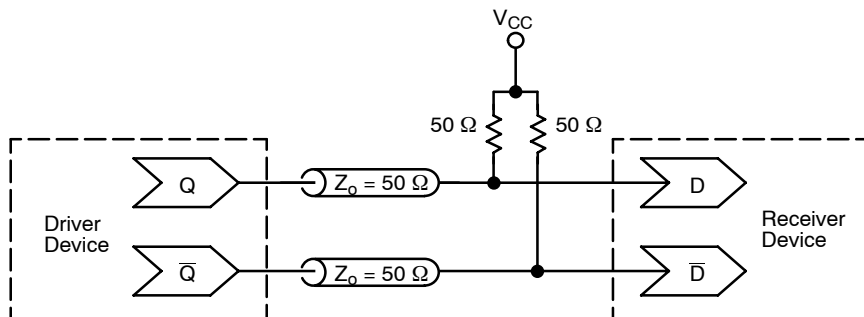

Figure 10. Typical Termination for Output Driver and Device Evaluation
4. CML outputs require $50\ \Omega$ receiver termination resistors to V_{CC} for proper operation (Figure 10).